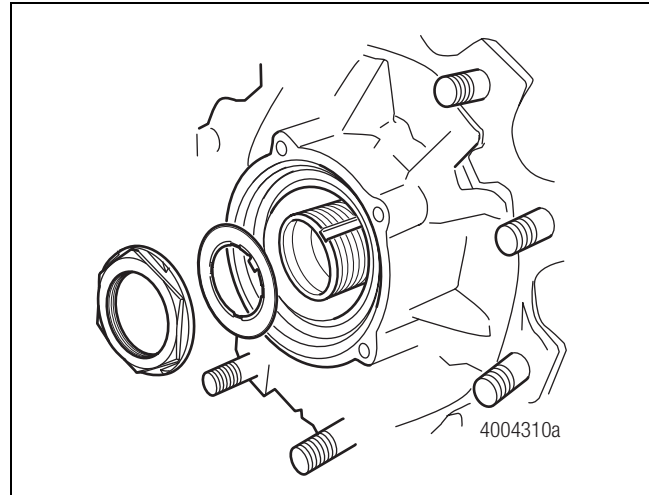

Figure 4.26
7. Remove the spindle nut and retaining washer. Because of the high installation torque, a torque multiplier may be useful in removing the spindle nut. Figure 4.26.